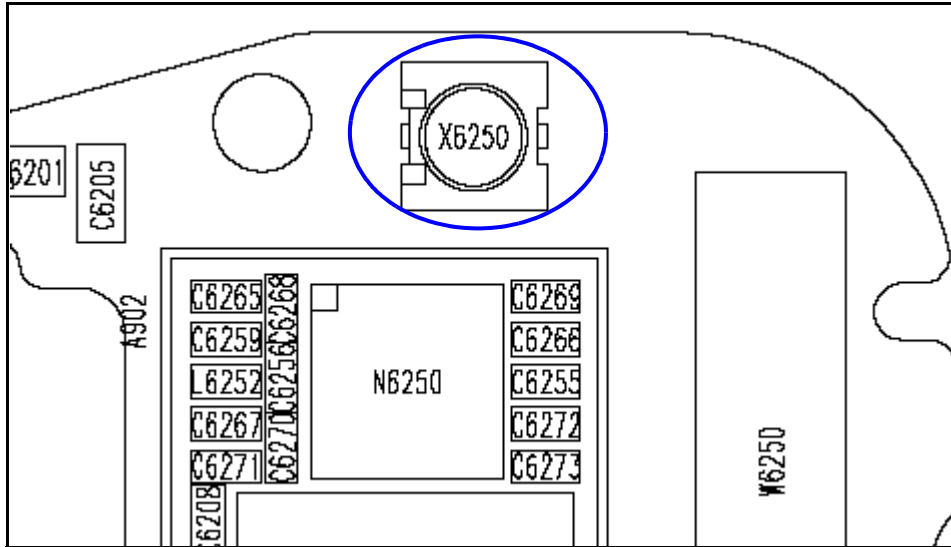

Figure 54: X6250 on the bottom side of the UI PWB
3. Inject a -50dBm tone at 1575.52MHz at the GPS connector (X6250) with a signal generator or a call box. (See Figure 54.)